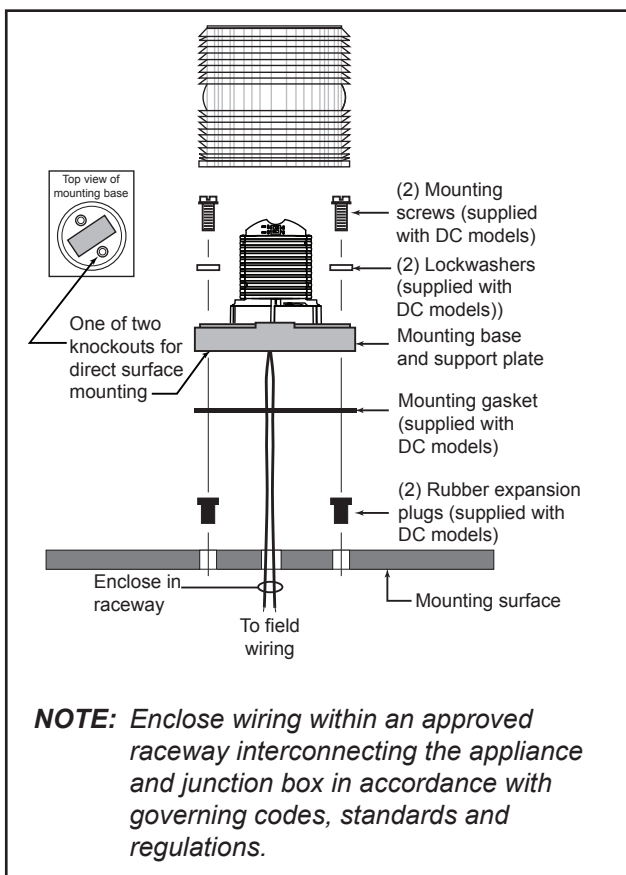

Figure 2. Direct Surface Mounting of the 48XBRM Series Signals
## Direct Surface Mounting (Indoor Only) - Figure 2
6. Align the outer holes in the mounting gasket with the holes in the surface. Insert two screws with lockwashers through the two outer holes in the signal base and align the screws with the rubber expansion plugs as shown in Figure 2. Press the signal base firmly against the mounting surface and tighten the screws.